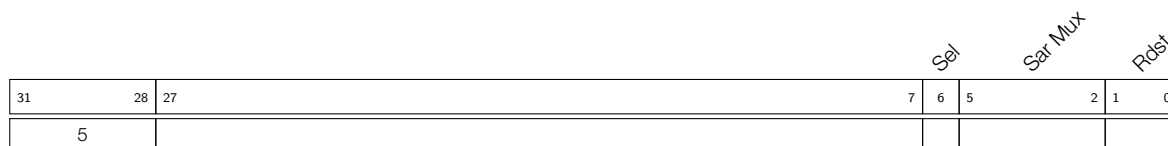

Figure 28-22. Instruction Type - ADC
**Operand**     **Description** - see Figure 28-22